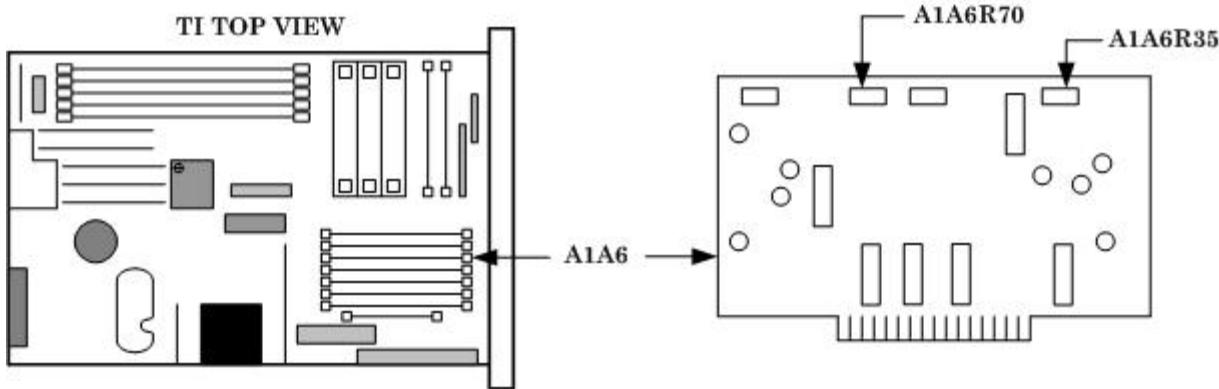

Figure 15. FM Adjustment locations.
(2) Press TI keys as listed in (a) through (g) below:
- (3) Set the audio analyzer to produce a 100 kHz, 0.01 V LEVEL STEP size, 1.414 V output with $600\ \Omega$ output impedance, then select special function 17.
- (4) Set measuring receiver and local oscillator to measure 15 GHz, then select **FM** measurement and **300 Hz HP FILTER**, **3 kHz LP FILTER**, and **+PEAK** detector.
- (5) Adjust A1A6R35 (fig. 15) for an indication of 100.0 ± 1 kHz FM deviation on the measuring receiver (R).
- (6) Adjust A1A6R70 (fig. 15) until TI meter indicates 100 kHz FM deviation (needle at full scale) (R).